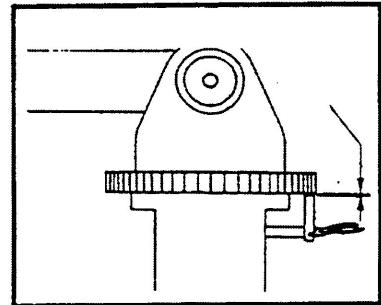

Figure 4
6. Using a feeler gauge, measure the difference between point “A” and the underside of the turntable. If the clearance is less than 1/16” or .060 (1.6mm) then the bearing is within the safety margin, and continue with the next step. However, if the play is greater than 1/16” or .060” (1.6mm) then it is beyond the safety margin and is in need of replacement. (See Figure 4.)